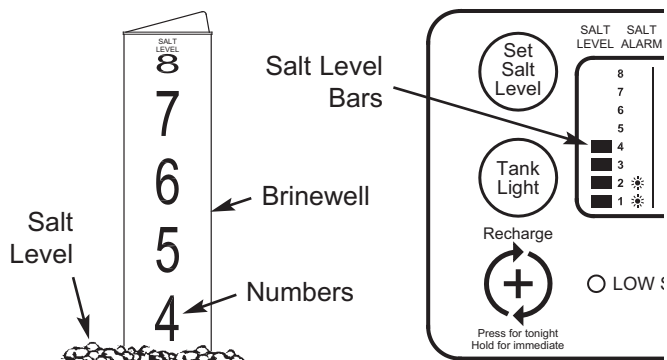

FIG. 25
2. The salt level scale, on the brinewell inside the tank, has numbers from 0 to 8 (see Fig. 25). Observe the highest number the leveled salt is at, or closest to.
3. Press the SET SALT LEVEL button as many times as necessary to make the salt level bars in the display (see Fig. 25) match the number on the brinewell. At level 2 or below, the “Low Salt” indicator will flash.